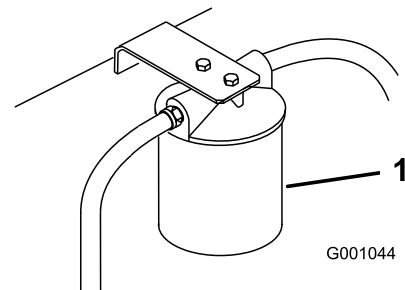

Figure 76
4. Place drain pan under filter, remove the old filter and wipe the filter adapter gasket surface clean (Figure 76).